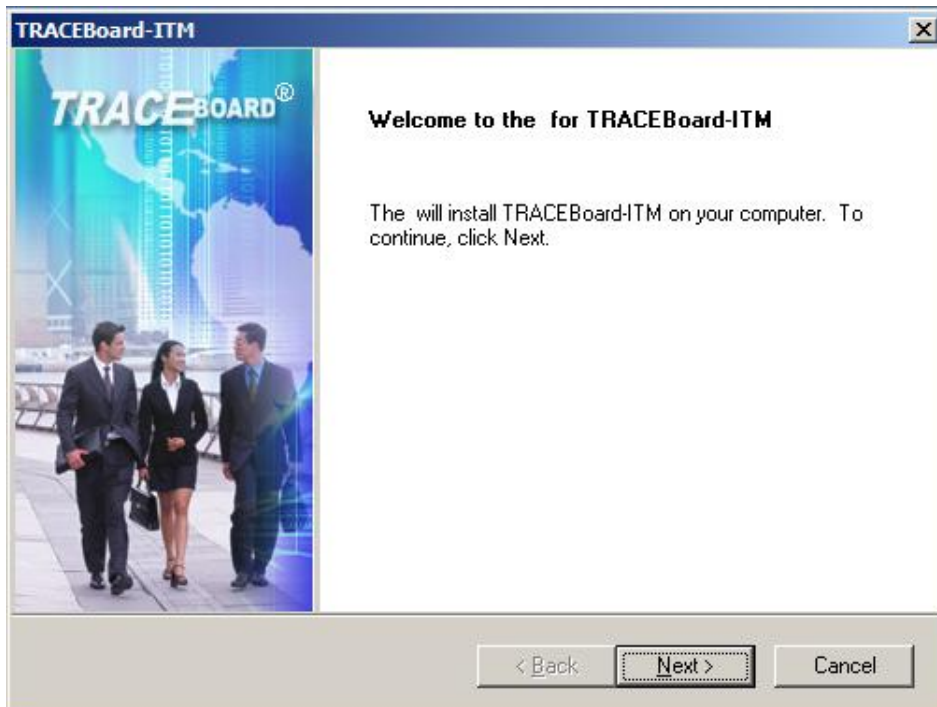

Fig 2.1.3
4. It is ready to install, and click next to continue, see fig2.1.3